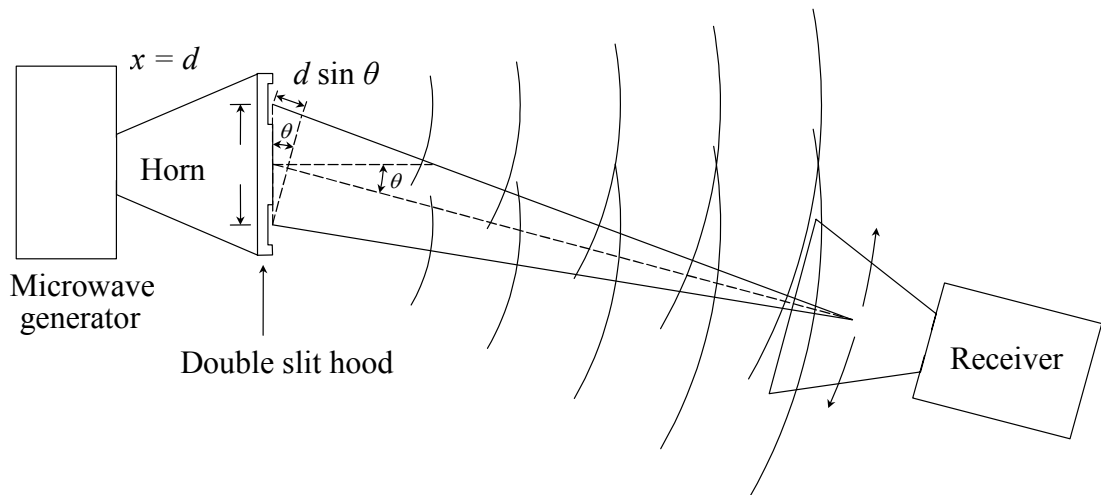

Fig. 9 Interference from the two slit hood.
2. Slide the double slit hood over the *generator's* horn, creating two coherent microwave sources as shown schematically in Fig. 9.